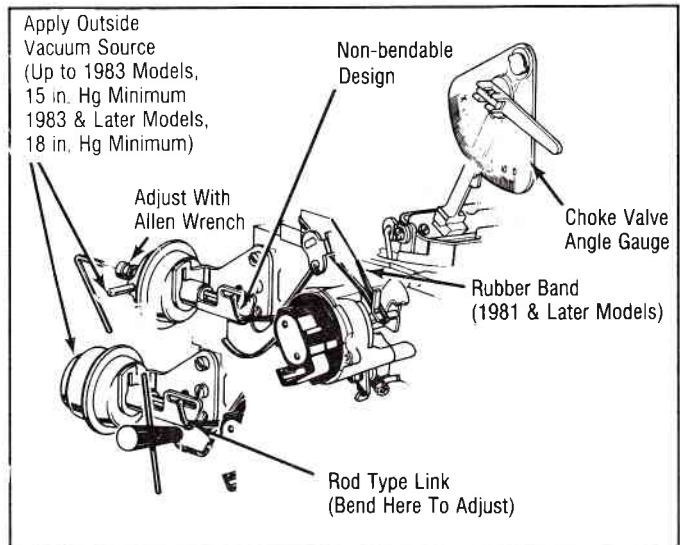

Fig. 10 Rear Vacuum Break Adjustment (1981 and Later Models Only)
3. On all models, using an outside vacuum source of at least 15 in. Hg (1983 and later models, 18 in. Hg), seat vacuum diaphragm. See Fig. 10.
NOTE: Only rod type vacuum break link may be adjusted by bending. Vacuum break units with flat steel design links are adjusted with an allen wrench. See Fig. 10.